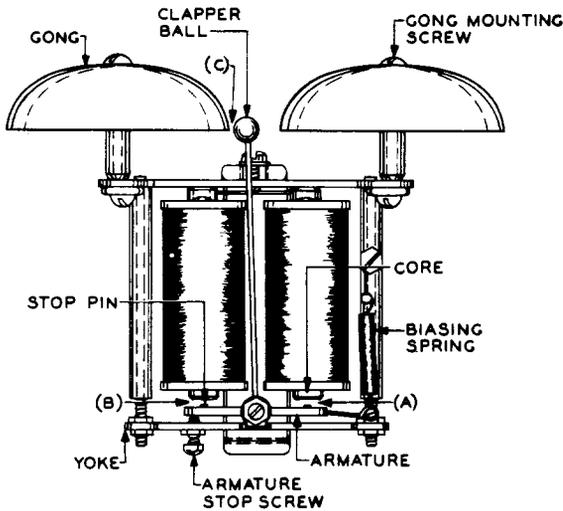

Fig. 2 - Ringers With Armature Stop Screw
- (1) Fig. 2(A) - With the stop pin on the stop screw side resting against the core, the airgap between the stop pin and
(2) Fig. 2 (B) - With the armature or the armature stop spring resting against the stop screw, the airgap between the stop pin and the core measured on the stop screw side shall be
→ (a) Fig. 2(C), 3(B), and 4(B) - With the armature pushed over gently against the core or the stop screw, the clearance between the clapper ball and the nearest gong shall be